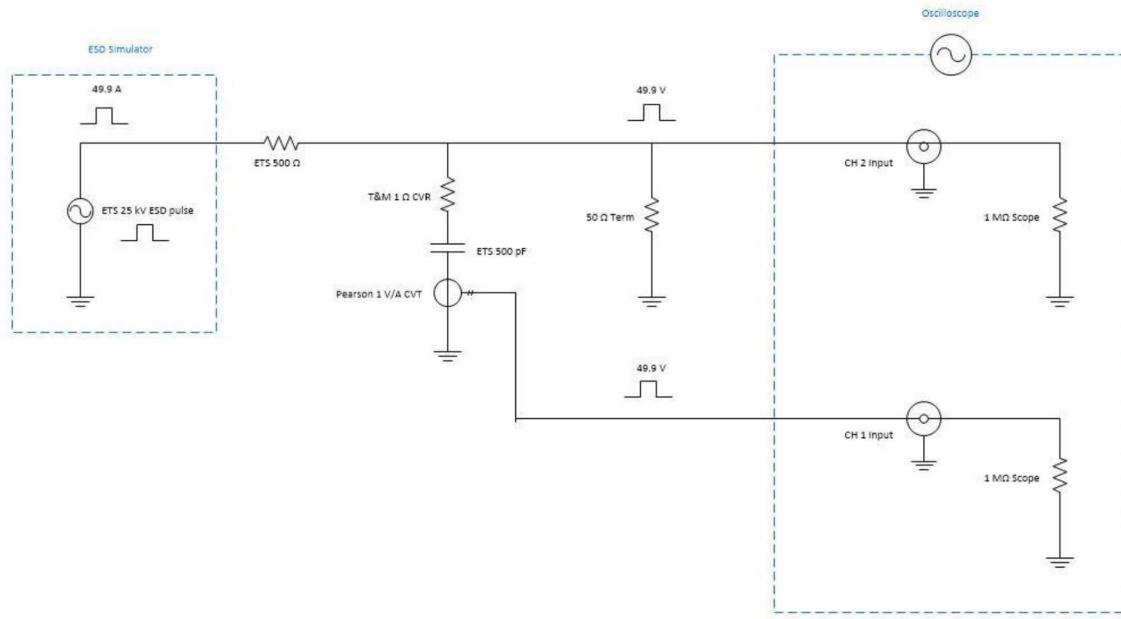

Figure 5. ETS 930D Calibration Schematic
27. The 25-kV voltage source and 500- Ω resistor are in series. The current from this source then views the 1- Ω CVR, 50- Ω termination, and the 1-M Ω oscilloscope as parallel connections. This is then read as a voltage on the oscilloscope (V_{Scope}). Use the certified values from Step 1 in this equation. For the 1- Ω CVR, the ESD output voltage (V_{ESD}) is as follows: See Figure 5.